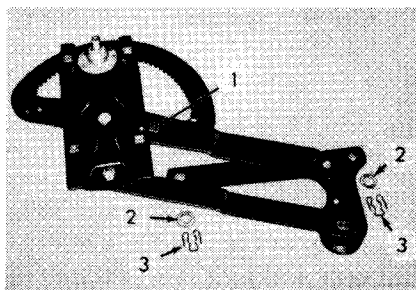

FIG. 8
5. Remove the clips (3, Fig. 8) and washers (2) from the two studs on the window regulator.